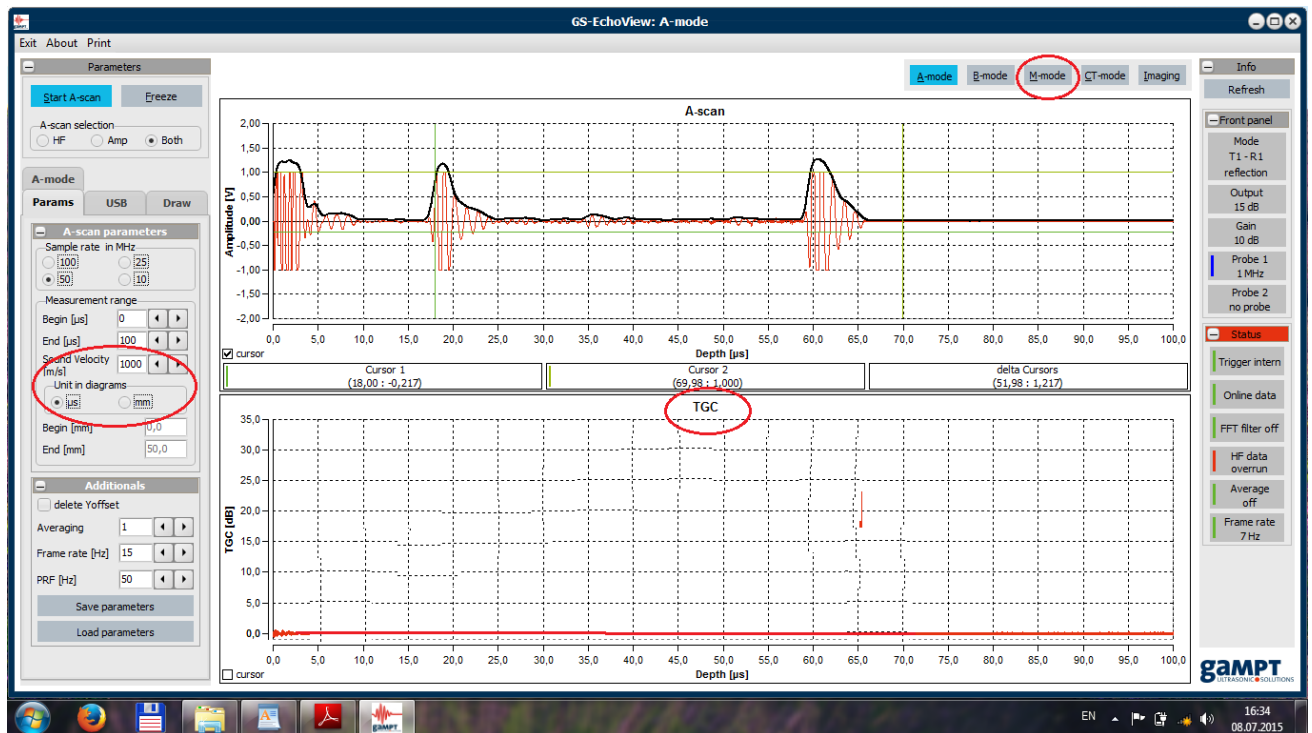

Figure 4. Main window of the GS-EchoView program
- In the window “A-mode” find the tab “params” and set the parameters “begin” and “end” to 0 and 100, respectively (see figure 4).